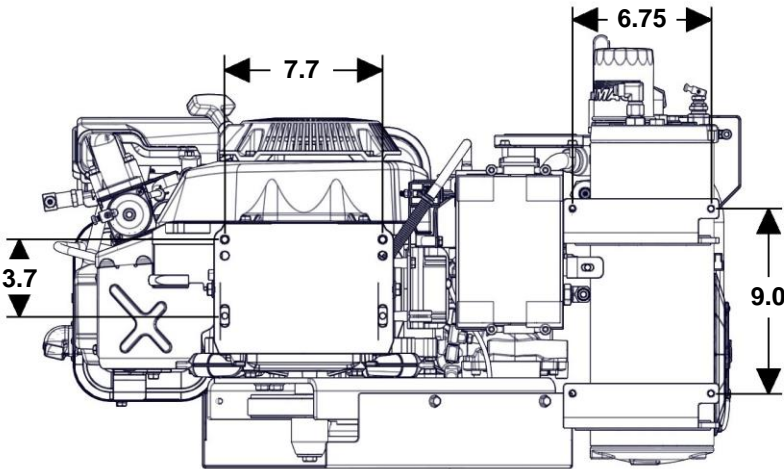

Figure 13 - Mounting without baseplate (dimensions in inches)
- There are four holes on the base of the engine, use the most-outer holes for mounting (two at the front, and two slotted) (Figure 13).
- There are 4 outer bolt holes on the WHASP tank which can be used as mounting bolt locations (Figure 13).